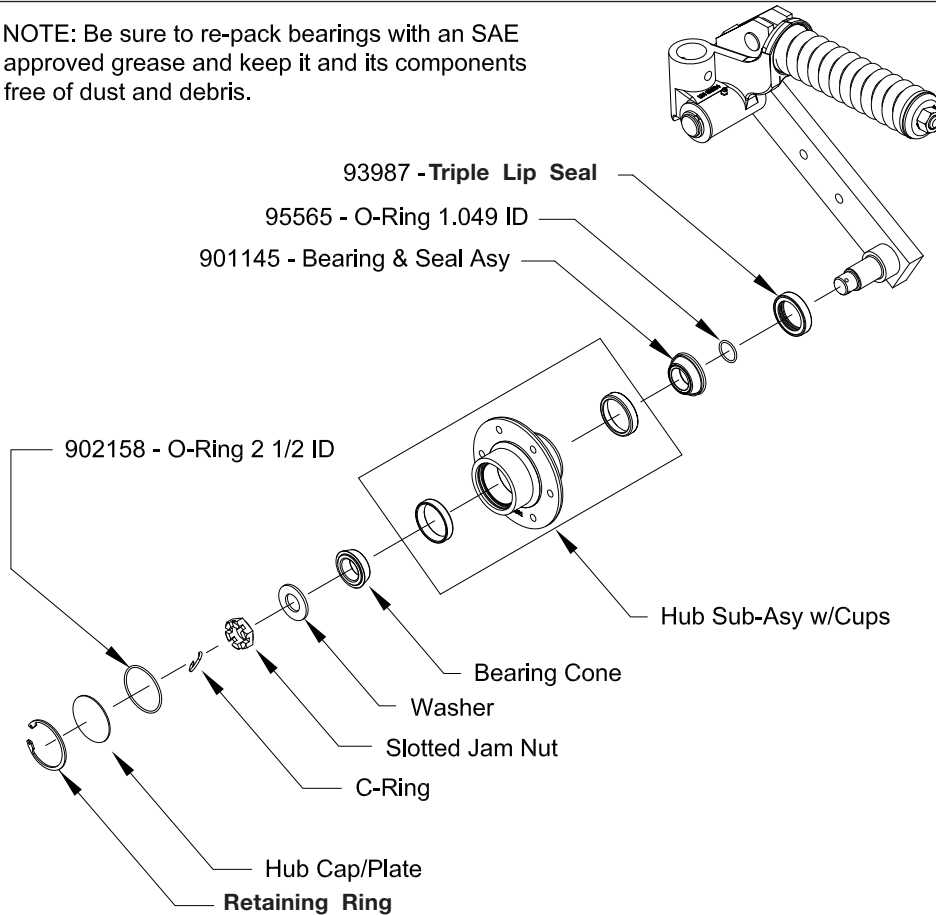

FIG. 4-23
- F. After reassembling the hub, position the slotted nut back onto the spindle and torque to 40-45 foot-pounds. Slightly tighten the nut to align slot (in nut) with the closest cotter pin hole and install C-ring and O-ring (902158) (FIG. 4-23).